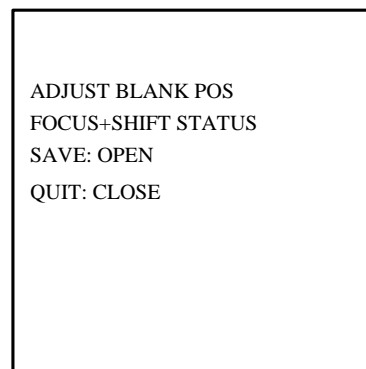

Figure 3.3.24
1. Use the joystick or direction buttons to position the cursor beside SET BLANK and then press IRIS+ to enter the window blank setting menu. Refer to Figure 3.3.24. A purple smear window will appear on the screen (the color of window varies depending on camera models).